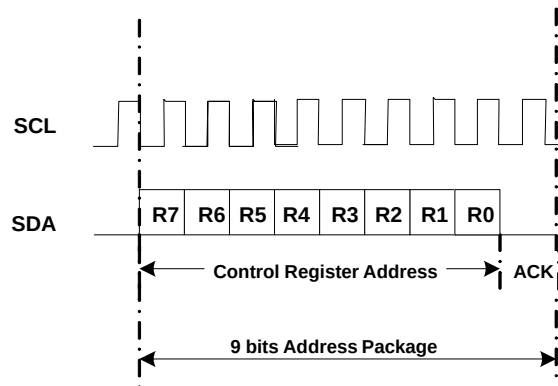

Figure 4. I²C CR Address Package for Writing
The address in the *address-package* indicates the memory address of the device, its address given in the start-package. In this application report, the address package delivers the codec's control register (CR) address. For I²C writing, the address package is 9 bits long, including: 8 bits CR address; and an ACK bit. Figure 4 shows the address package.